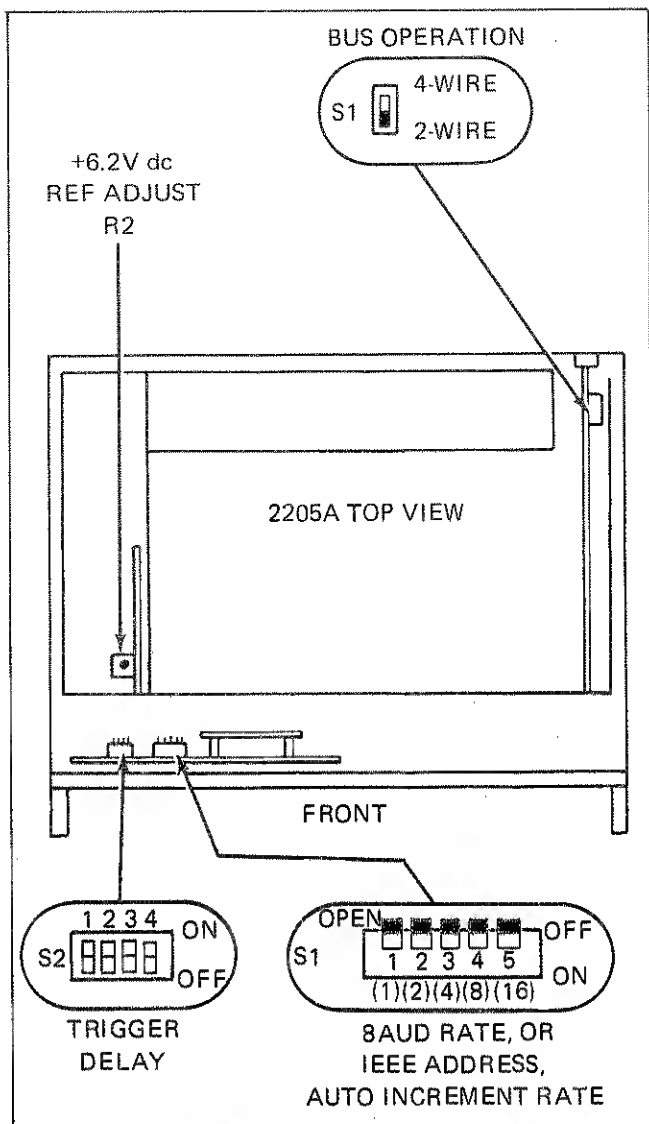

Figure 2-3. Internal Switch and Adjustments Location
2-25. All internal switches can be accessed by removing the top cover from the 2205A. The locations of the applicable switches are shown in Figure 2-3. Switch setting procedures are given later in this section of the manual. Complete the following procedure to remove the top cover:
1. Use the Access Procedure to remove the 2205A top cover and locate the two-/four-wire switch (S1) on the Extended Bus PCB (Figure 2-3).
1. Use the Access Procedure to remove the 2205A top cover and locate S1 on the Front Panel Display PCB (Figure 2-3).
1. Use the Access Procedure to remove the 2205A top cover and locate switch S2 on the Front Panel Display PCB (Figure 2-3).
1. Use the Access Procedure to remove the 2205A top cover and locate switch S1 on the Front Panel Display PCB (Figure 2-3).